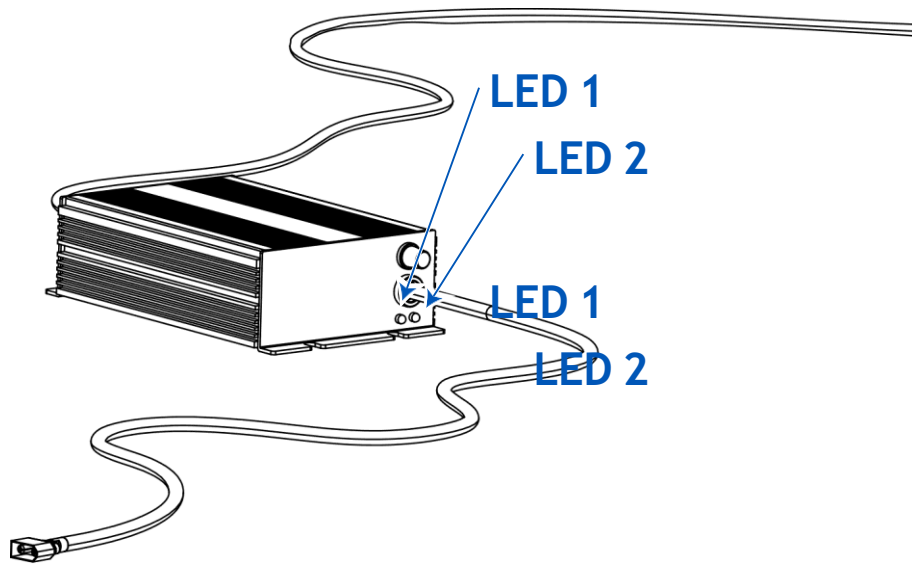

Fig. 38
1. The charger cable must be plugged into the household mains (Figure 37a). At this point, LED 1 on the charger will be red and LED 2 will be green (Figure 38).